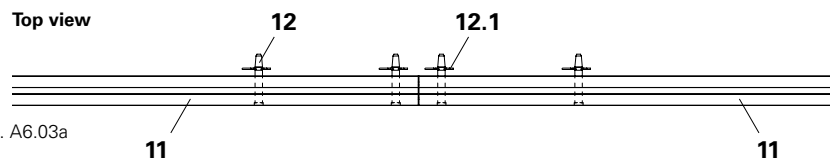

Fig. A6.03a
3. Insert in the 1st and 4th holes respectively with four bolts 20 x 140 (**12**), and secure with cotter pins (**12.1**). (Fig. A6.03a + A6.03b)